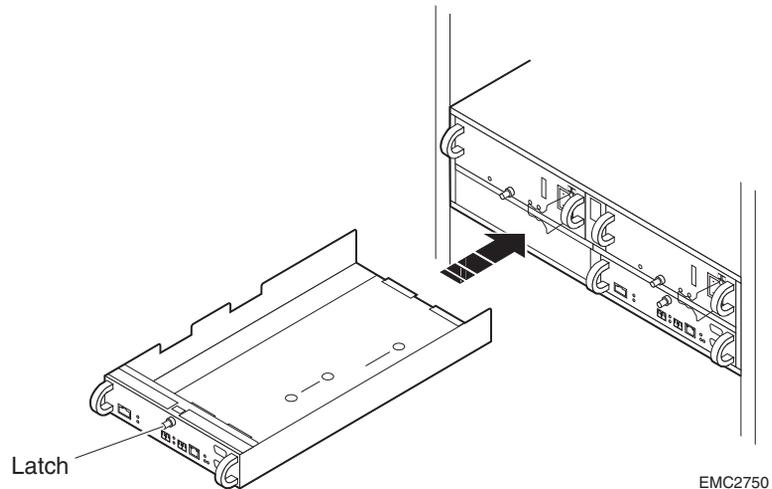

Figure 3-12 Installing an SP (CX300 Shown)
1. *Gently* insert the SP as shown in Figure 3-12. Be sure the module is completely seated in the CX300/CX300i midplane.